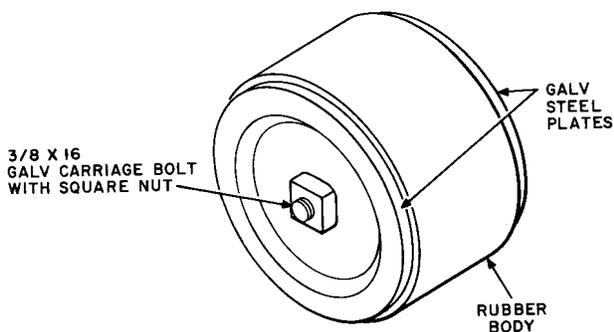

Fig. 1—Solid Rubber Conduit Plugs
2.02 The square solid rubber conduit plug (Fig. 1) consists of a soft, expandible, rubber center section between two zinc coated steel compression plates assembled with a 3/8-inch carriage bolt and square nut. A square hole in the center of the steel plate conforms to the square shoulder of the carriage bolt to prevent the bolt from turning when the nut is tightened.
2.04 The round solid rubber plug is identical in construction to the square solid rubber plug except for the circular design of the steel plates and rubber center section (Fig. 1).